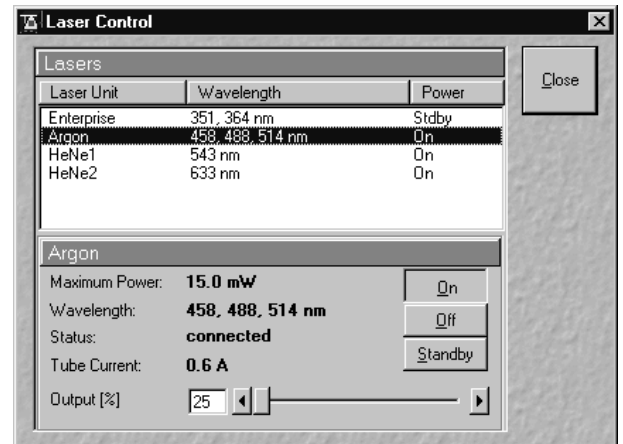

Fig. 4-25 Laser Control
- You will see a **Laser Control** window with a list of available lasers (Fig. 4-25). Your screen may differ from the one displayed.